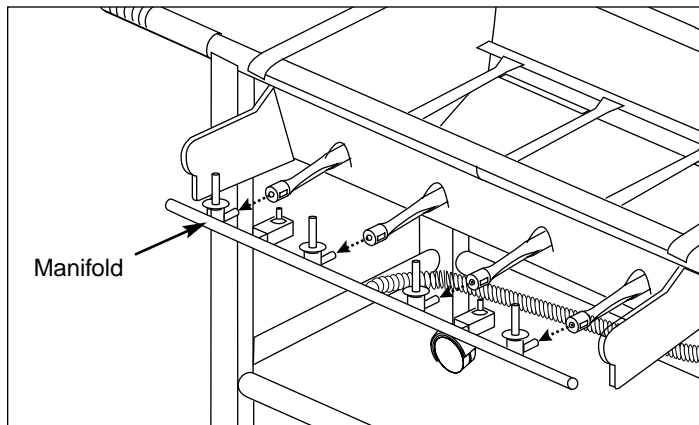

Figure 11
10. Pull the manifold out of the burners. Figure 11.